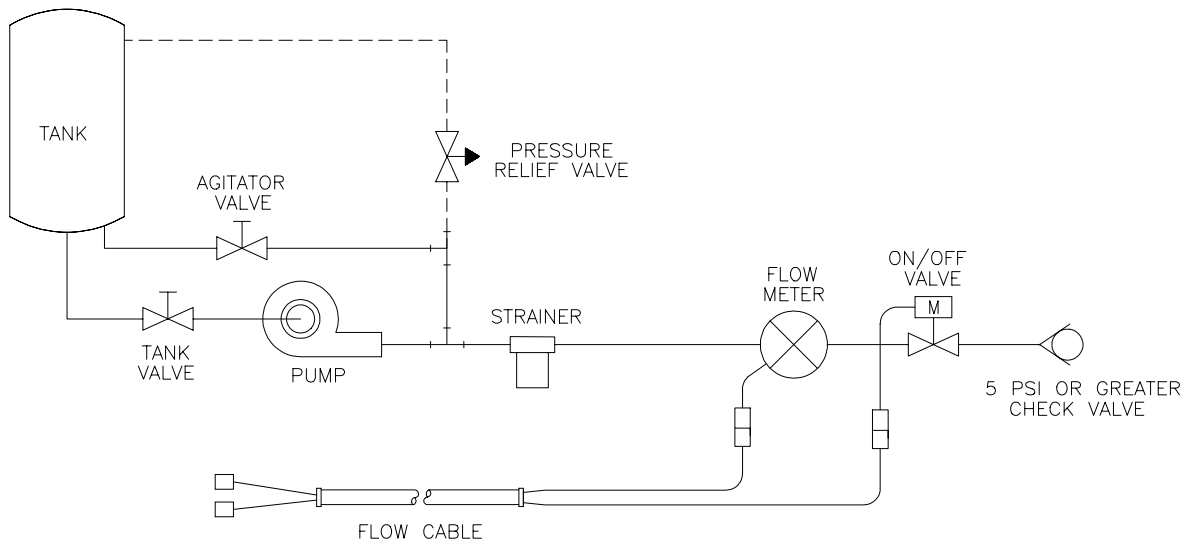

FIGURE 1
- 1) Mount the Flow Meter in the area of the On/Off Valve per Figure 1. All flow through the Flow Meter must go to the outlet only, i.e. no return line to tank or pump after Flow Meter.